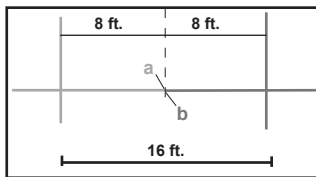

Figure 6
4. Turn the instrument until the vertical beam has moved 16 ft. to the right side, and mark **b** 8 ft. from the intersection of the beams to the left on the horizontal line. See Figure 6.